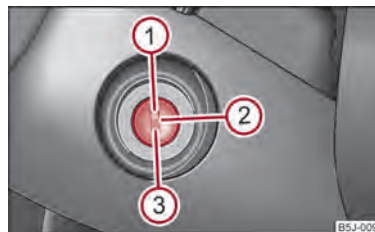

Fig. 82 Ignition lock positions
- The engine can be switched off by turning the ignition key from position → fig. 82 into position ①.